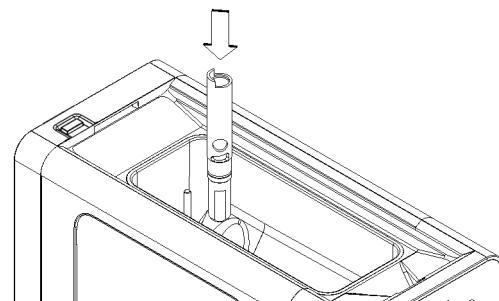

figure 3
- 1 Insert the lower part of the mixing pipe into the purpose-provided connection slot between the tank and the cylinder, making sure you direct it in such a way as to insert it fully in its seat. (see figure 3)